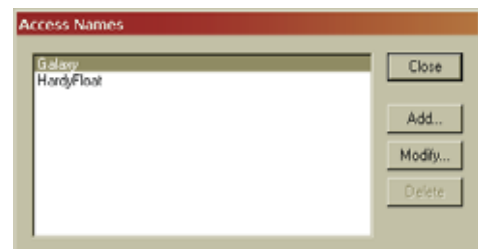

FIG. 245: WINDOWMAKER/ACCESS NAME DIALOG BOX
Step 31. Click on the Analog button. The Access Names dialog box appears. (See Fig. 245)